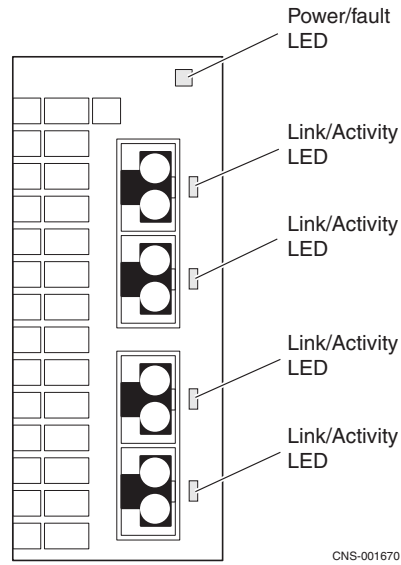

Figure 36 Four-port 8-Gb/s FC I/O module LEDs
The four-port 8-Gb/s Fibre Channel (FC) I/O module has two different types of status LEDs. Figure 36 shows the LEDs and Table 20 describes them.